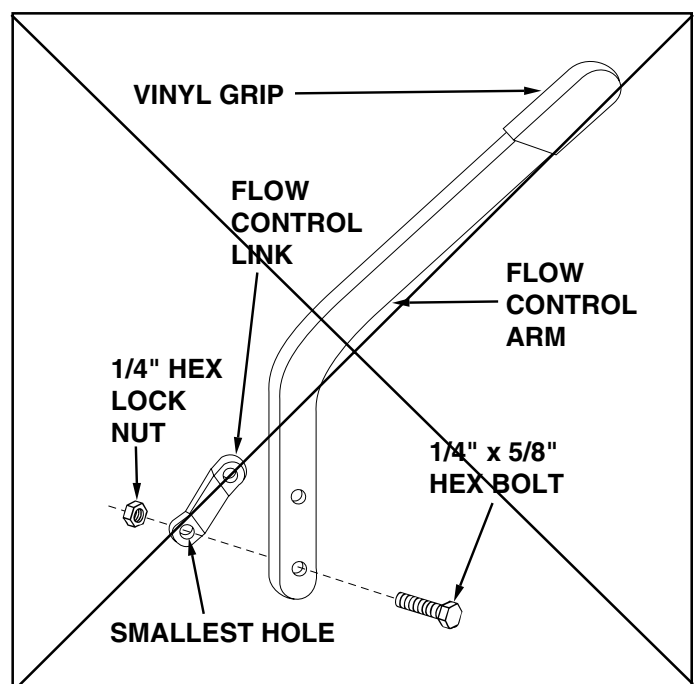

FIGURE 9
13. Assemble the flow control link (the end with the smallest hole) to the flow control arm using one 1/4" x 5/8" hex bolt and one 1/4" hex lock nut. See figure 9. **DO NOT OVER TIGHTEN, FLOW CONTROL LINK MUST PIVOT FREELY.**
14. Place the vinyl grip on the flow control arm. See figure 9.